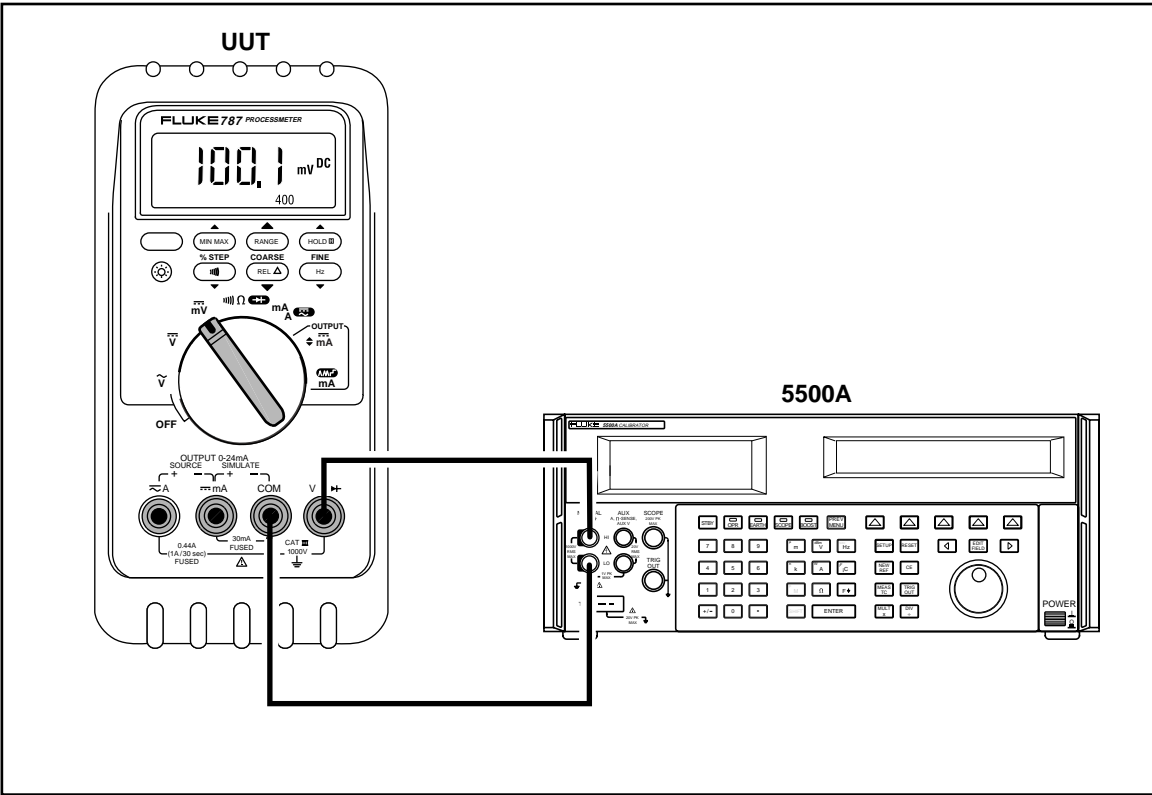

Figure 9. DC mV Measurement Test Connections
- 3. Connect the calibrator to the **COM** and **V Ω →** terminals on the UUT as shown in Figure 9.